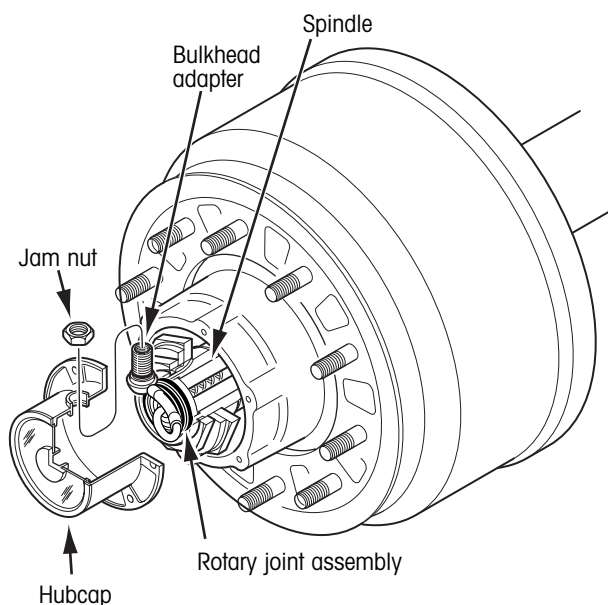

Figure 35. Hubcap to bulkhead adapter removal
1. Remove the jam nut from the rotary joint bulkhead adapter and remove the hubcap (figure 35).